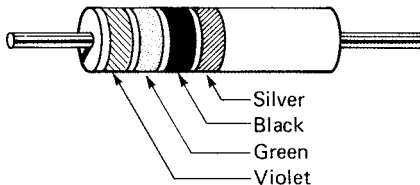

Figure 3-5 A 75-ohm resistor.
The violet (7), green (5), and red (2) indicate that the resistor has a value of 7500 ohms. The gold band indicates it has a value of $7500 \pm 5\%$. Five percent of 7500 ohms is 375 ohms. That gives the 7500-ohm resistor a tolerance range of $7500 + 375$ and $7500 - 375$. The results are 7875 ohms and 7125 ohms. The resistor can read anywhere between 7125 and 7875 and still be called a 7500-ohm resistor. Sometimes you may find a resistor such as shown in Fig. 3-5. The resistance value is not 750 ohms, but 75 instead. The third band specifies the number of zeros. Since black is zero, these are no zeros after the first two digits. Thus, the black adds nothing and the 75 stands alone. The silver tolerance on the resistor indicates that it has a plus or minus value of 7.5 ohms (75 times 0.10 produces 7.5 ohms). The 7.5 ohms has to be added to and subtracted from 75 to produce the tolerance range of the resistor. So, 75 plus 7.5 equals 82.5 ohms, and 75 minus 7.5 equals 67.5 ohms. The resistor has a tolerance range of 67.5 to 82.5 ohms.